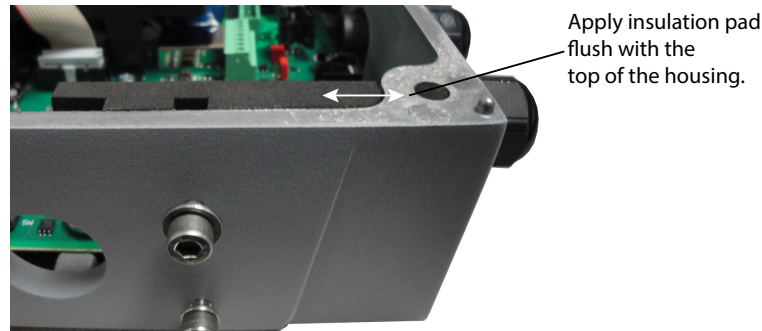

Figure 4: Installing foam insulation pad
4. Prior to inserting the daughterboard, install the foam insulation pad as shown in Figure 4 on page 6. Be sure to align the groove with the two screws attaching the detector or wall mount bracket to the enclosure. The primary purpose of this pad is to ensure the daughterboard is insulated from the enclosure wall. It is important to install this pad flush with the top of the enclosure wall.